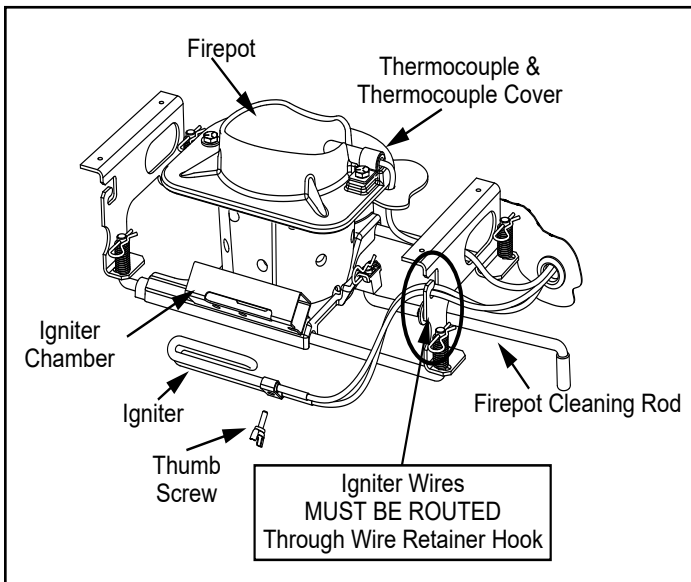

Figure 26.1
5. Install new igniter into the chamber and tighten thumb screw. The wires **MUST** route through the wire retainer hook and then re-connect the wires to the 2 leads with the spade connectors (**Figure 26.1**).